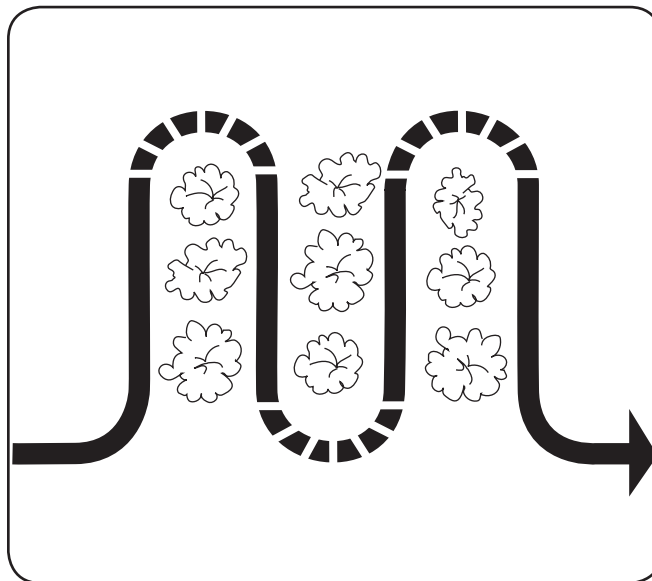

Figure 5-8
- With planning, you can allow enough room between rows to cultivate. See Fig. 5-8. Leave room for the hood width, plus enough extra room for future plant growth.